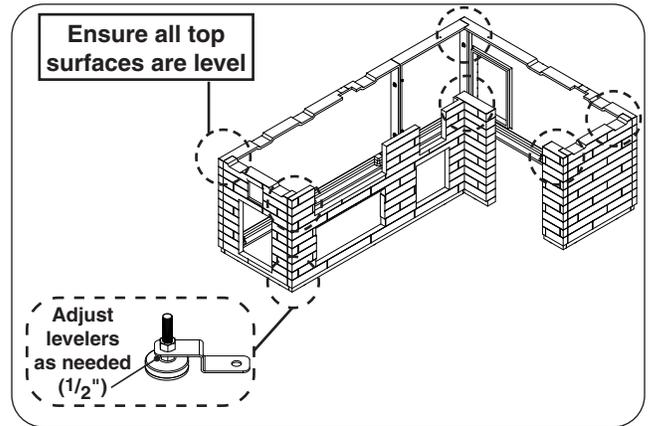

Fig. 14-1 Level assembly
1. Use the level to ensure the top surfaces of the assembly are level. The levelers at the bottom of the island may be adjusted as needed with a  $\frac{1}{2}$ " open end wrench. See Fig. 14-1.